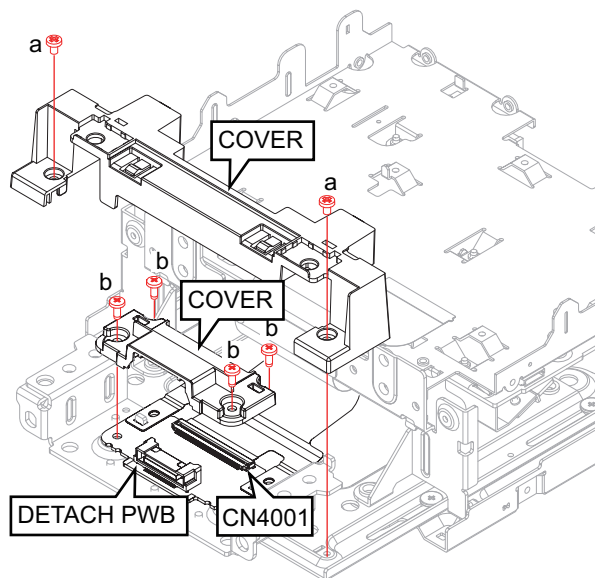

Fig.19
3.1.7 Removing the DETACH PWB (See Fig.19)